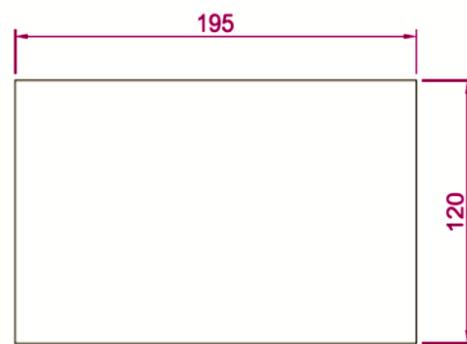

Fig 9.3
2. Construct the outline shown in Fig. 9.3 using the Line tool. The coordinate points of each corner of the rectangle will need to be calculated from the lengths of the lines between the corners.